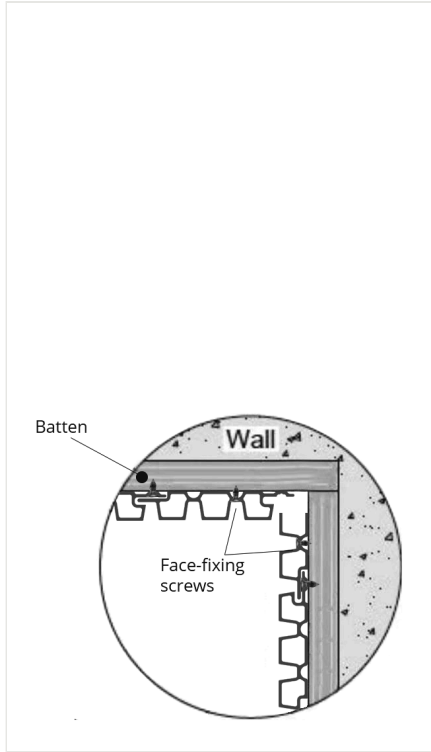

FIG. 12 - CUT AFTER THE FIRST SLAT GAP
- 05 If less than a full board remains, cut the board at any point after the first slat gap (from the tongue side) so there is room to fit the screw (fig. 12).